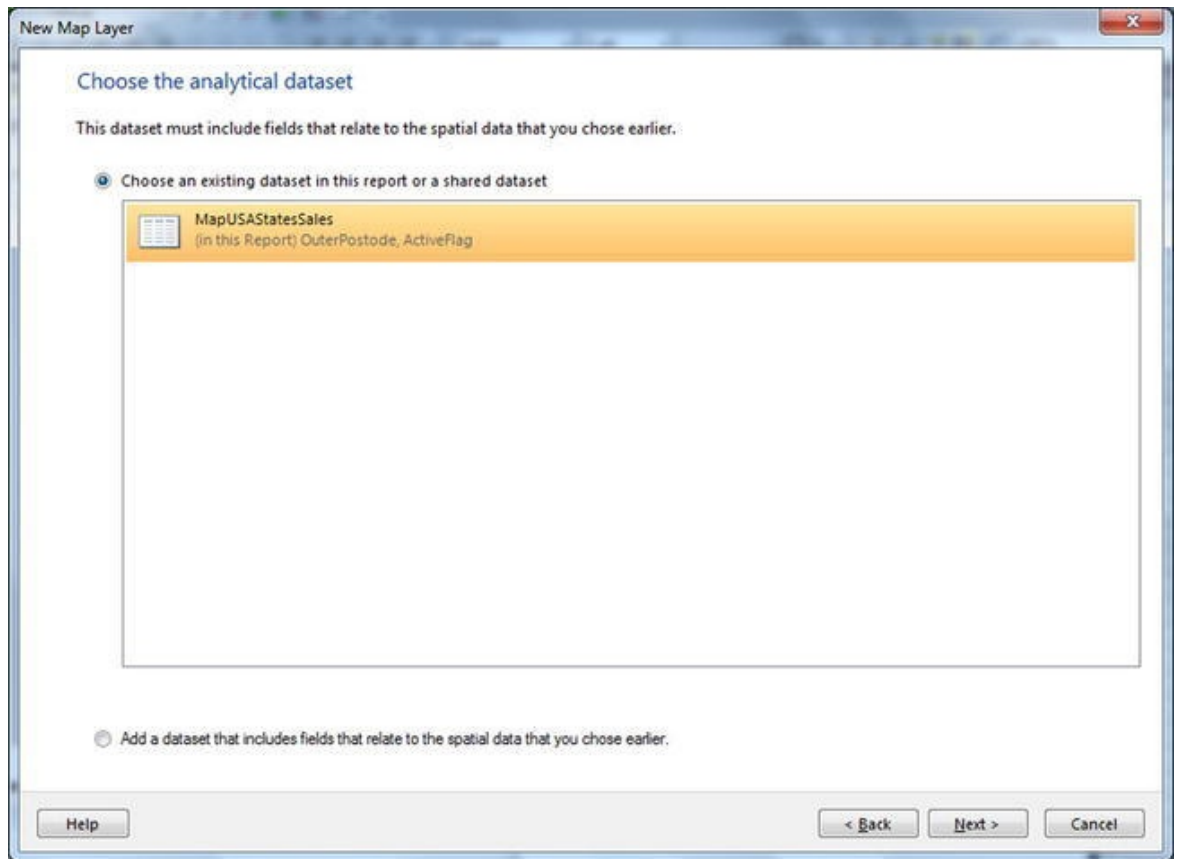

Figure 5-6. The Choose the analytical dataset pane
12. Select the MapUSASales dataset. The dialog will look like Figure 5-6.